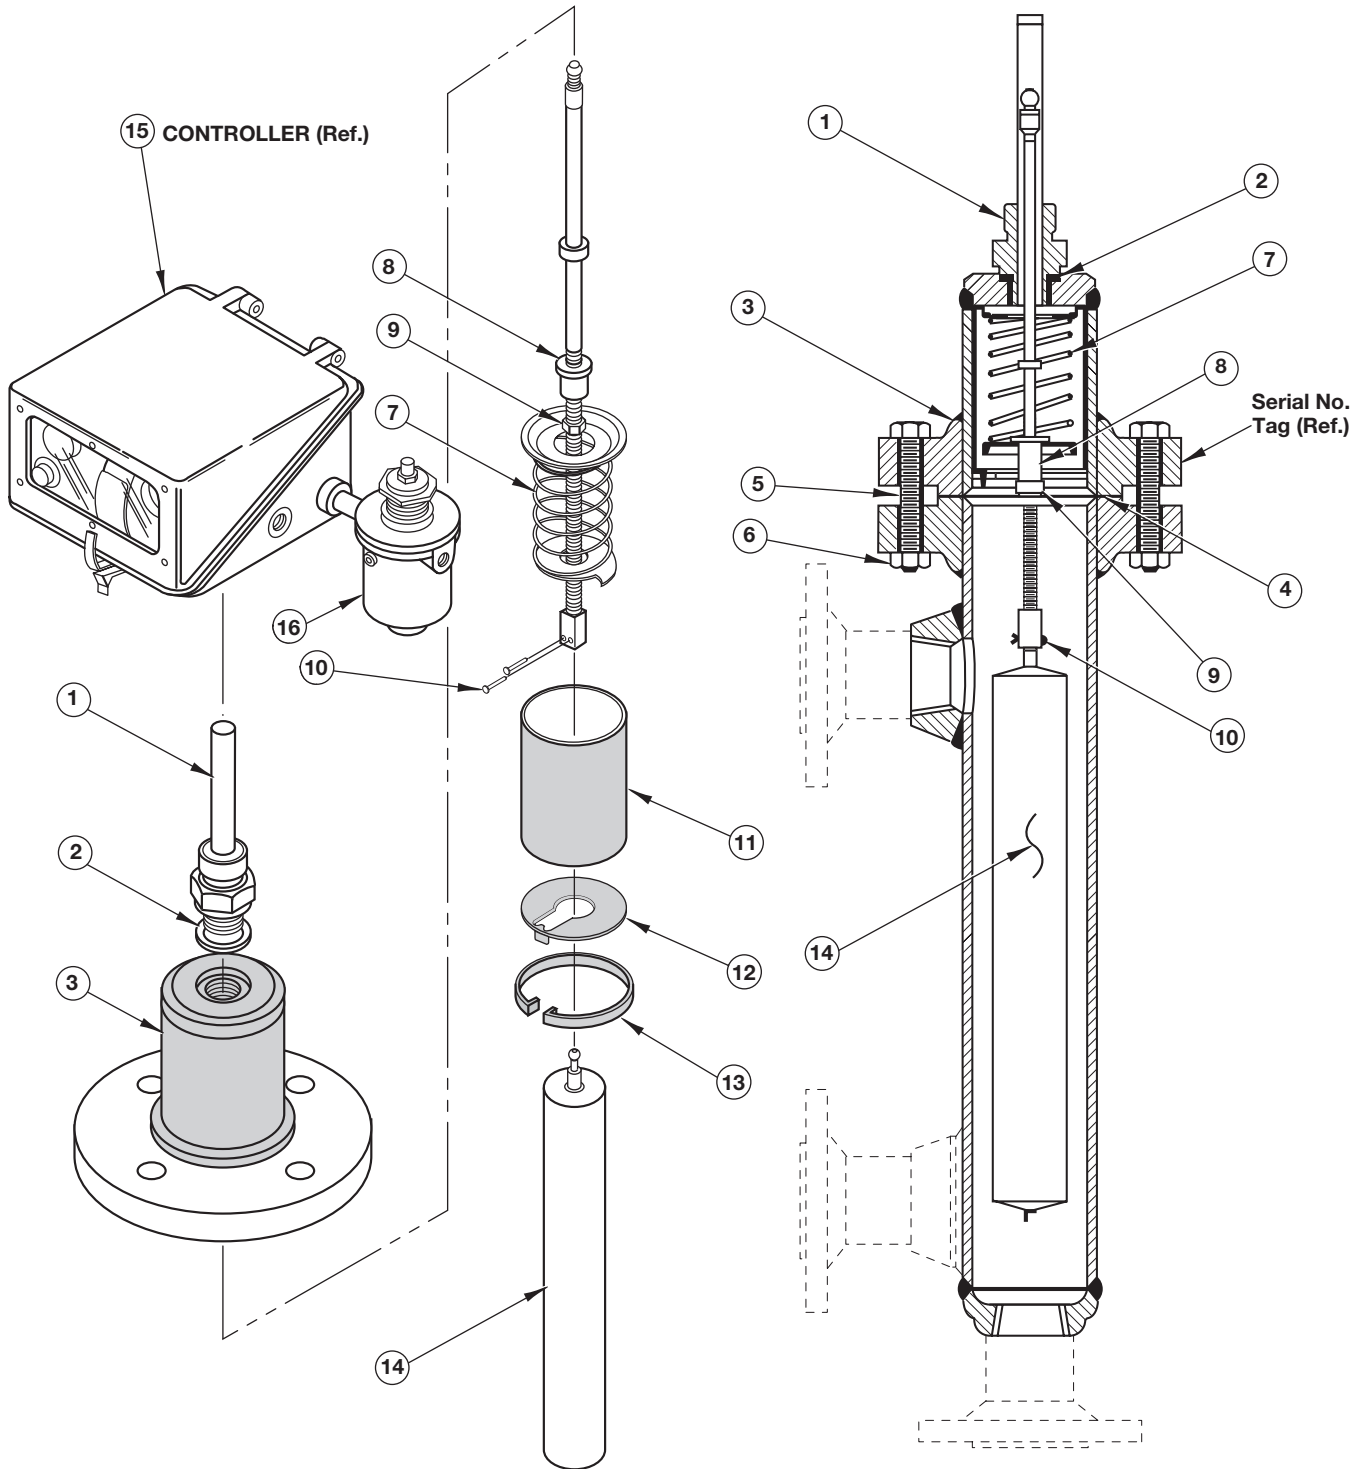

Figure 33
3.3.2 Series P61, P62, P63, P64, P65, P66, P71 and P72 Parts Identification (See Figures 33 & 34)
3.3.2.1 Series P61, P62, P63, P64, P65, P66, P71 and P72 (See Figures 33 & 34)
3.3.3 Series P51, P53 and P55 Parts Identification (See Figures 33 & 34)
3.3.3.1 Series P51, P53 and P55 (See Figures 33 & 34)